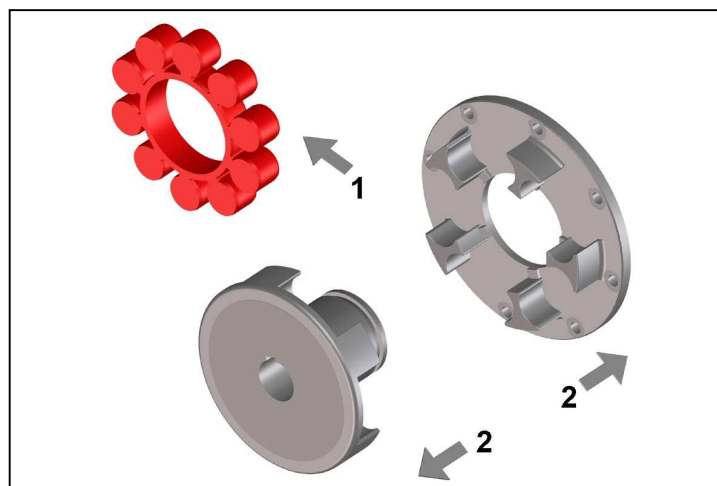

Fig. 3
- Remove the elastic buffer ring (Fig. 3, pos. 1).
- Mount the coupling hub in the proper position on the shaft end (Fig. 3, pos. 2).
- Mount the aluminium coupling flange to the flange connection. When joining the parts, take care that they do not get canted at the centering seat. (Fig. 3, pos.2).